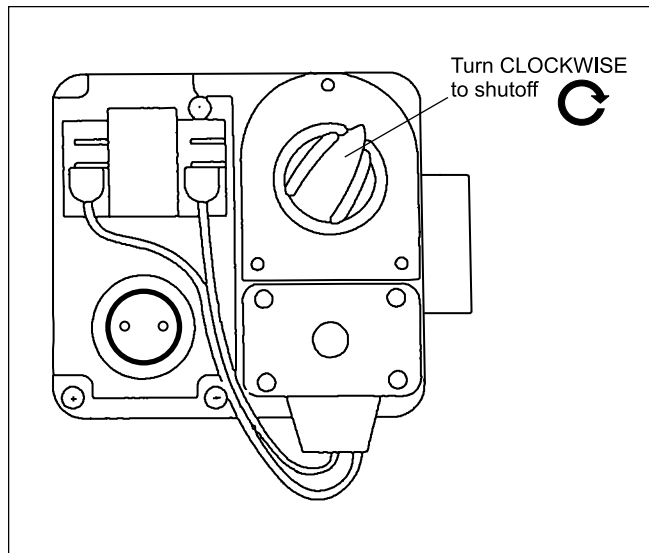

Figure 15. Manual gas shutoff.
- b. Open gas cock(s) and open manual gas shutoff valve by turning to “on” position (see Figure 15).